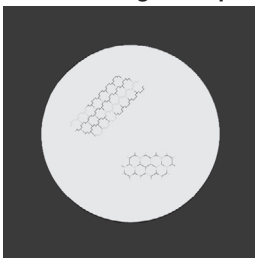

FIGURE 2.7. CHICKEN WIRE
(5) Chicken Wire. An irregular pattern of dark thin lines in the field-of-view either throughout the image or in parts of the image area (see Figure 2.7.). Under the worst case condition, these lines will form hexagonal or square-wave shaped lines. **No action is required if this condition is present unless it interferes with the operator's ability to view the image or to perform the mission.**